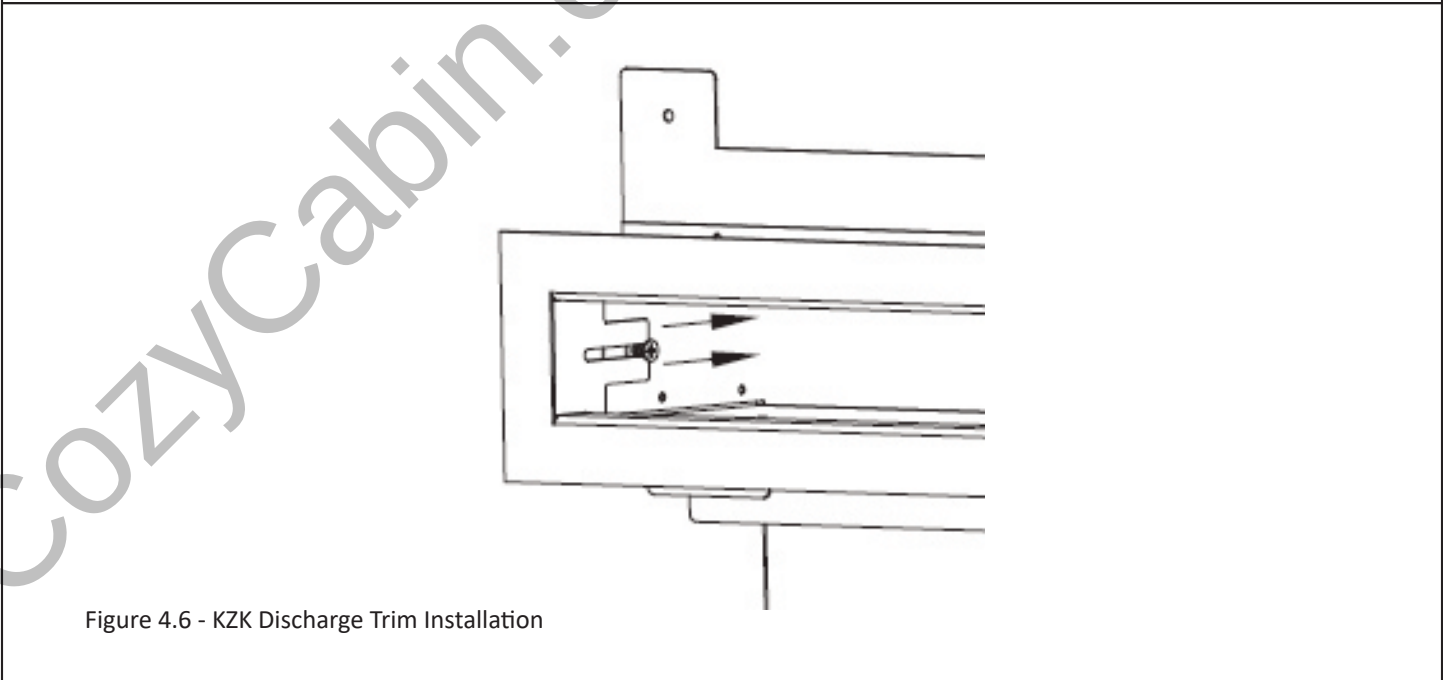

Figure 4.6 - KZK Discharge Trim Installation
7. Attach the ducts from all (4) plenum take-off collars to all (4) take-off collars on the fireplace. If you are mounting the plenum 10' (3.05m) or less above the fireplace, use (1) #KZK-410-6 kit or UL-181 Class 0 approved air duct. If you are mounting the plenum between 10' (3.05m) to 20' (6.10m) above the fireplace then you will need (2) #KZK-410-6 kits and #KZK-CPL6 or UL-181 Class 0 approved air duct.
9. Install the plenum discharge trim provided with the kit using (2) screws. See Figure 4.6.